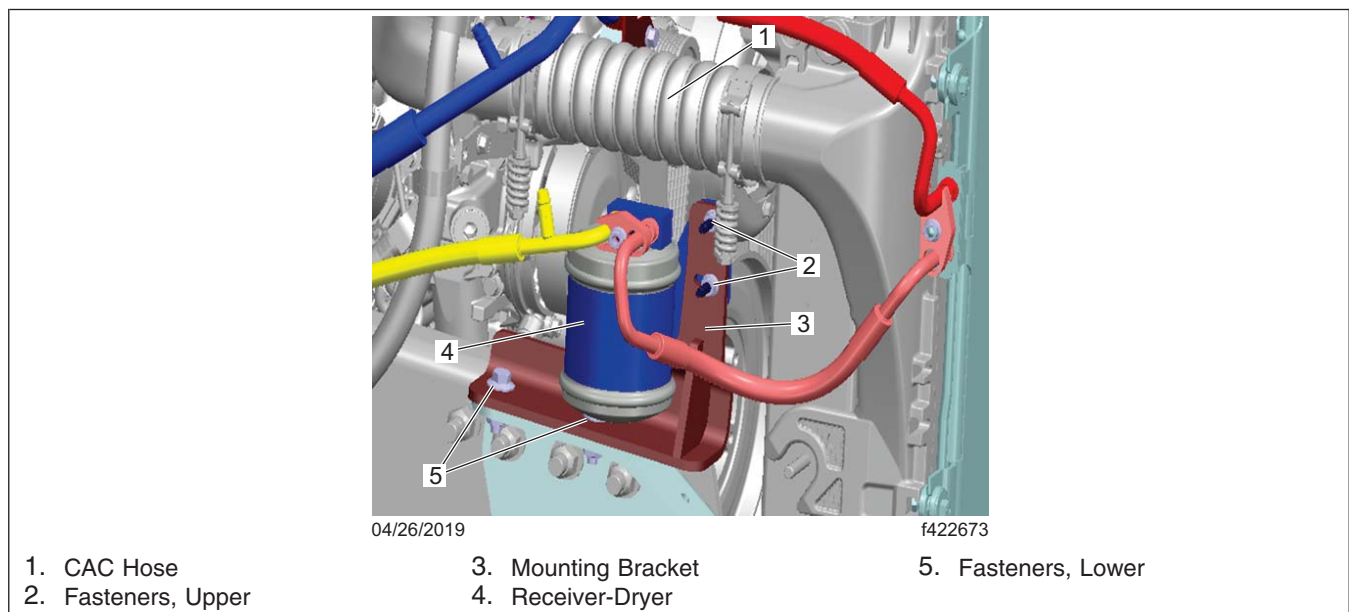

Fig. 1, Receiver-Dryer Bracket and CAC Hose
3. Remove the four receiver-dryer mounting bracket fasteners. See Fig. 1.
6. Install the new receiver-dryer mounting bracket. Tighten the upper fasteners to 14 to 16 lbf-ft (19 to 22 N-m). Tighten the lower fasteners to 30 lbf-ft (41 N-m). See Fig. 1.